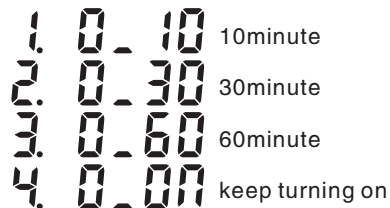

Figure 2-3-2 DC24V time setup
- (1) Please select **7.024V** (output 24V) in the main menu.
- (2) As figure 2-3-2 Screen, screen shows the time options of DC24V output.
- (3) When the selected time is up, the DC24V output is closed automatically.